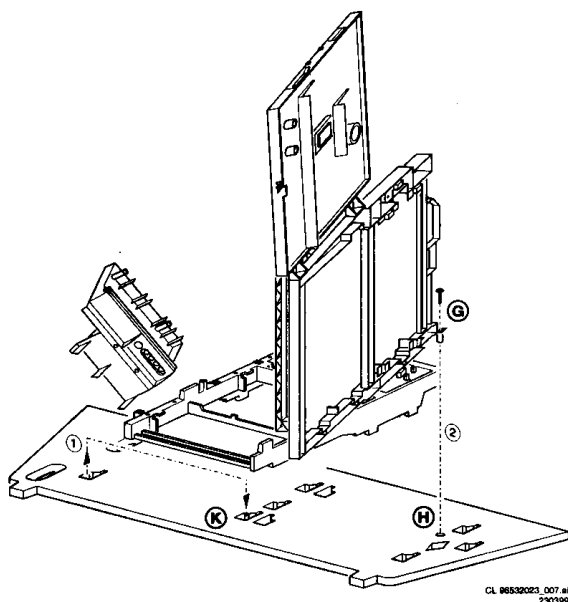

Figure 4-13
1. First reinforce the Supply assembly fixation with the LSP bracket with a screw. (see figure 4-13)
3. Rotate the complete LSP/Supply assembly 90 degrees, such that snaphook (G) is placed into hole (H). If needed this construction can be reinforced with a screw (see figure 4.13).